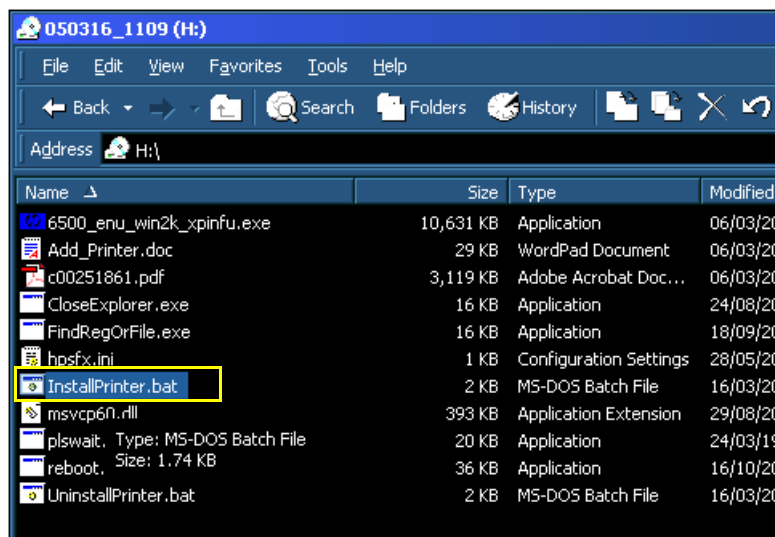

Figure 8-136 Install Printer
- 8.) Browse the CD (Drive H:) and double-click on the **InstallPrinter.bat** file (Figure 8-136)